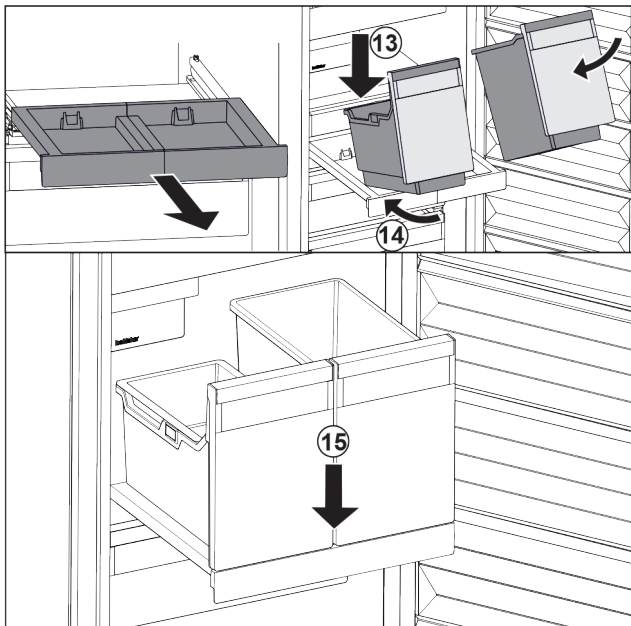

Fig. 95
- Place the container at an angle on the pull-out board. Fig. 95 (13)
- Slide the container to the back at an angle. Fig. 95 (14)
- Place container in the front. Fig. 95 (15)